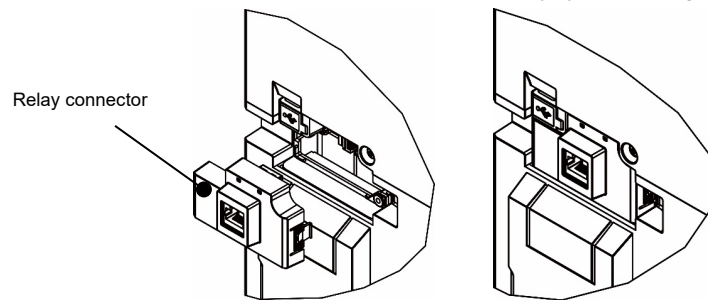

Figure 2.3 5 Attachment of the relay connector
- (1) Squeeze the hooks (2) shown in Figure 2.3 4 and pull the keypad towards you to remove it.
- (2) Attach the relay connector of the CBAD-CP to the inverter main body. (Refer to Figure 2.3 5.)